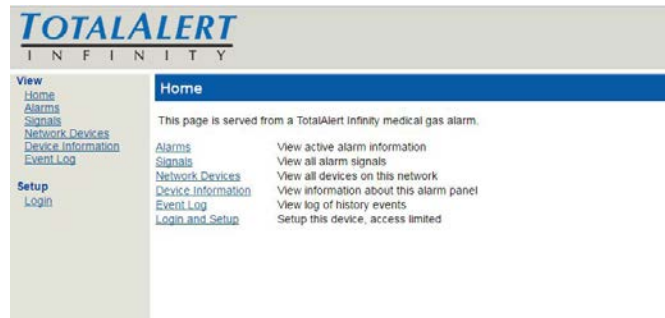

Figure 281
3. After you enter the IP address, the alarm's home page will be displayed. See Figure 281